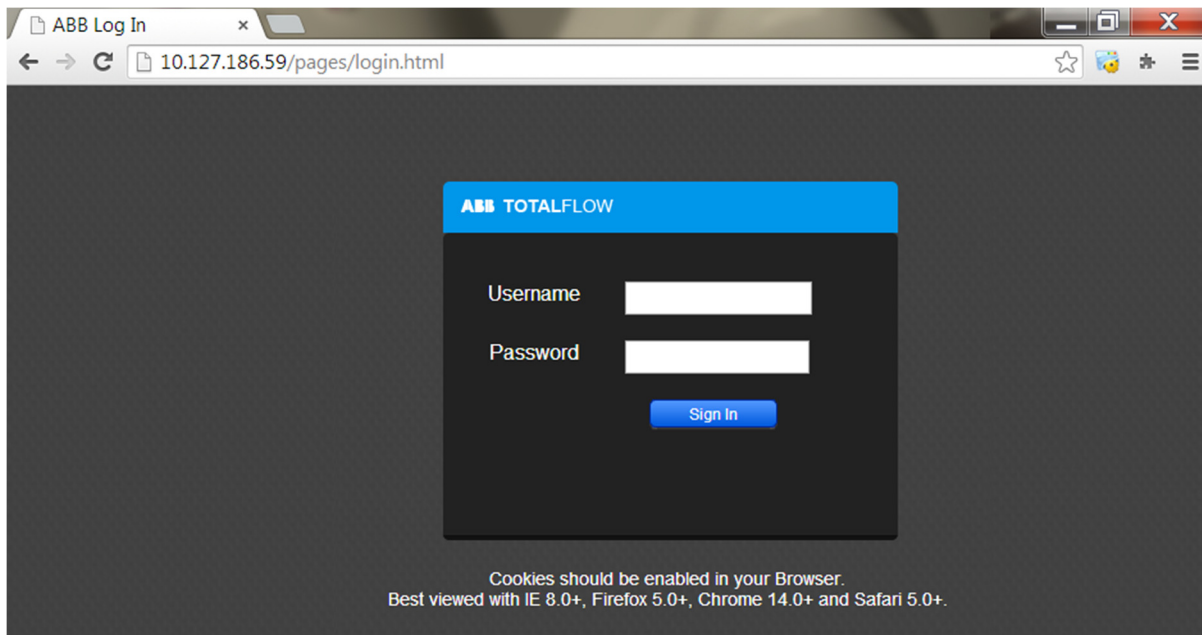

Figure 8: Browser Login
4. Enter the following URL **http://<device IP>** and press **Enter**. The user login dialog box appears (Figure 8).